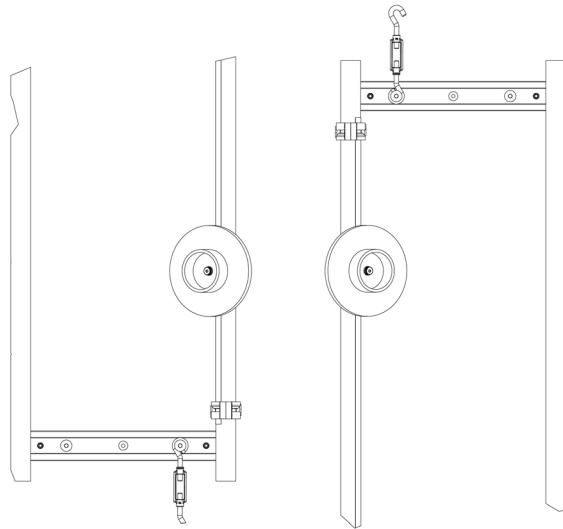

Figure 5 - Examples of Tape Jig Orientations
6. Refer to **Figure 5** for examples of tape jig orientations. Install the tape jig in the orientation that best suits the requirements of your specific installation.